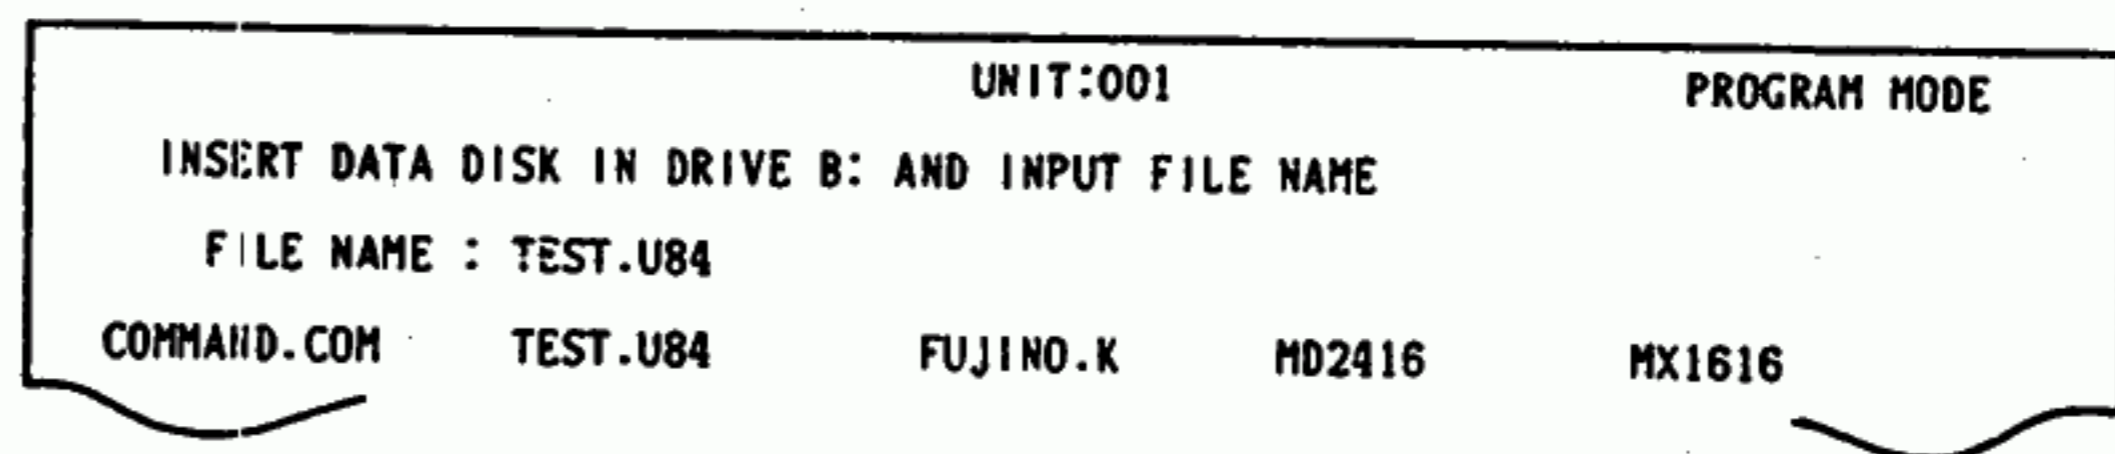

Fig. 4.60
2. Depressing **DIRECTORY** key displays the file names (Fig. 4.60).